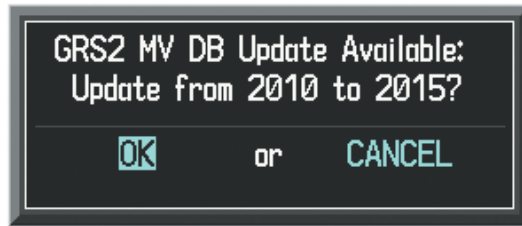

Figure B-14 GRS2 Magnetic Field Variation Database Update Prompt
- 2) When the upload is complete, the prompt for the next GRS upload is displayed, as seen in Figure B-14.